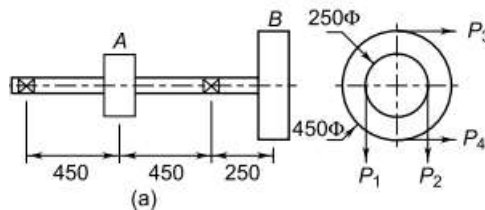

Fig. 5
- 6 a) A line shaft supporting two pulleys A and B is shown in Fig. 5. Power is supplied to the shaft by means of a vertical belt on the pulley A, which is then transmitted to the pulley B carrying a horizontal belt. The ratio of belt tension on tight and loose sides is 3:1. The limiting value of tension in the belts is 2.7 kN. The shaft is made of plain carbon steel 40C8 ($S_{ut} = 650 \text{ N/mm}^2$ and $S_{yt} = 380 \text{ N/mm}^2$). The pulleys are keyed to the shaft. Determine the diameter of the shaft. [10]